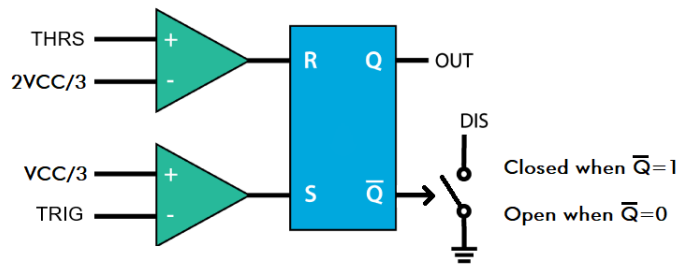

Figure 2: A highly simplified rendering of a 555 Timer's internals.
In order to analyze the circuit in Figure 1, you first need to understand the internal operation of the 555 Timer chip. A highly simplified view of its internal structure is shown in Figure 2. You will notice some of the pins shown in Figure 1 are not shown in Figure 2. These omitted pins do not affect the behavior of the circuit shown in Figure 1, so to simplify the explanation, they are omitted. Finally, note that VCC is the system voltage in Figure 1, for simplicity, we will assume throughout the lab that $VCC = 9V$.
Let's start our exploration of Figure 2 by examining the pair of green triangles called comparators. We will call the upper comparator the "R-comparator" because it is connected to the R input of the blue box. Likewise, we will call the lower comparator the "S-comparator". Notice each comparator has a + and - input on its left, and its output on the right. The behavior of a comparator is described by the following two statements.
Use these definitions and the schematic in Figure 2 to answer the following two questions. Assume that $V_{CC} = 9V$, so state your answers in terms of numerical volts, not symbolically in terms of VCC.
Notice the THR and TRI inputs to the 555 Timer are tied together in Figure 1. We will call this common voltage V_t in the following text. Make note of this assignment now. Next, let's look at the blue box in the middle of Figure 2 known as an SR-latch. The input voltages to the SR-latch come from the comparator. When the comparator outputs VCC, the SR-latch interprets this as a logic 1. A comparator output of GND is interpreted by the SR-latch as logic 0.
The last element of Figure 2 is the voltage-controlled switch connected to the $\bar{Q}$ output of the SR-latch. This switch opens and closes under the control of the $\bar{Q}$ signal, hence the arrow head. When $\bar{Q} = 1$, the switch is closed, connecting the DIS pin to ground. When $\bar{Q} = 0$, the switch is open,
3. Now, let’s summarize our understanding of the components in Figure 2 to complete Figure 3. In this figure, the vertical axis represents the voltage of V_t (the common voltage of the TRI and THR pins in Figure 1). The voltage range of V_t is split into 3 ranges, 9V-6V, 6V-3V, and 3V-0V. For each of these ranges: